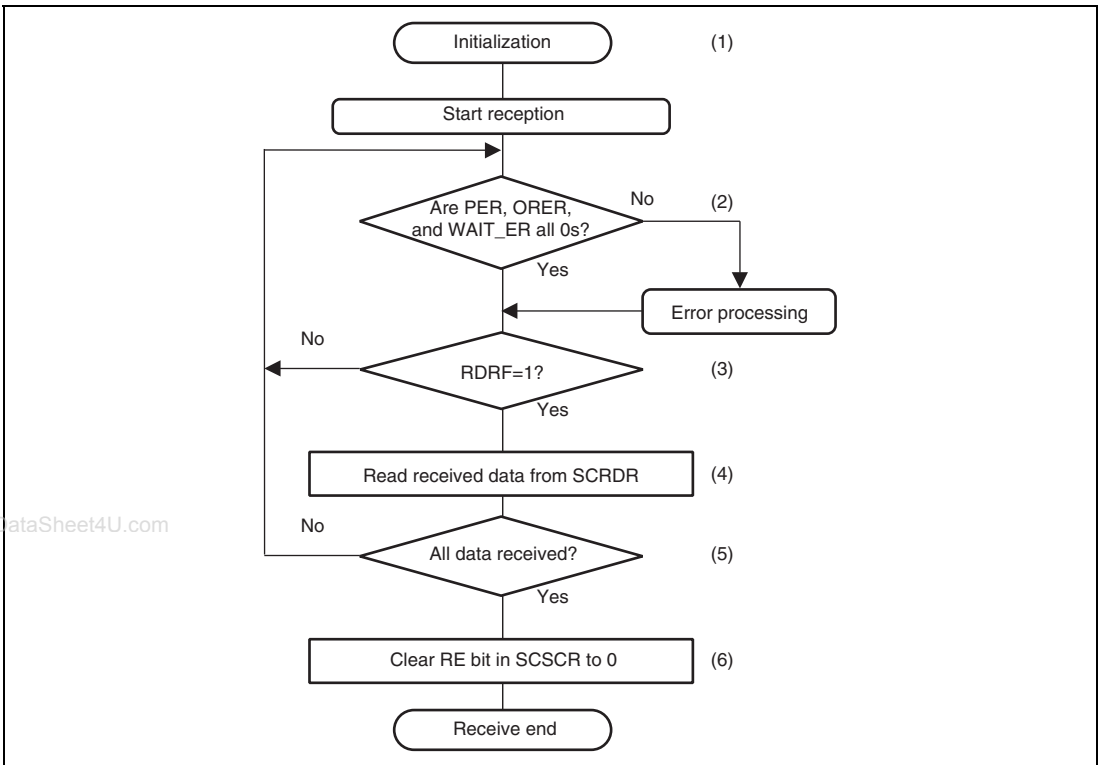

Figure 30.6 Example of Receive Processing
An example of data receive processing in smart card mode is shown in figure 30.6.
Step (1) to step (6) of figure 30.6 correspond to the following operation.
3. Repeat steps (2) and (3) in the figure until it can be confirmed that the RDRF flag is set to 1.
5. When receiving data continuously, return to step (2).